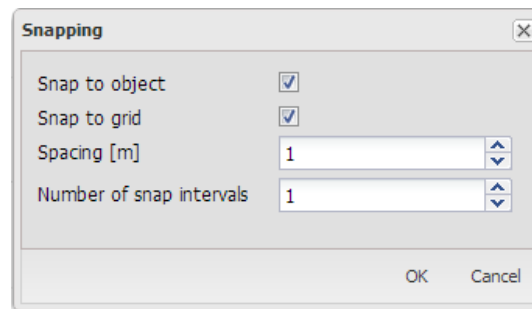

Figure 163: Modification of the **Number of snap intervals**
1. Click the **Snapping options** button  in the bottom toolbar and snapping window appears as shown in Figure 163 (on page 187).